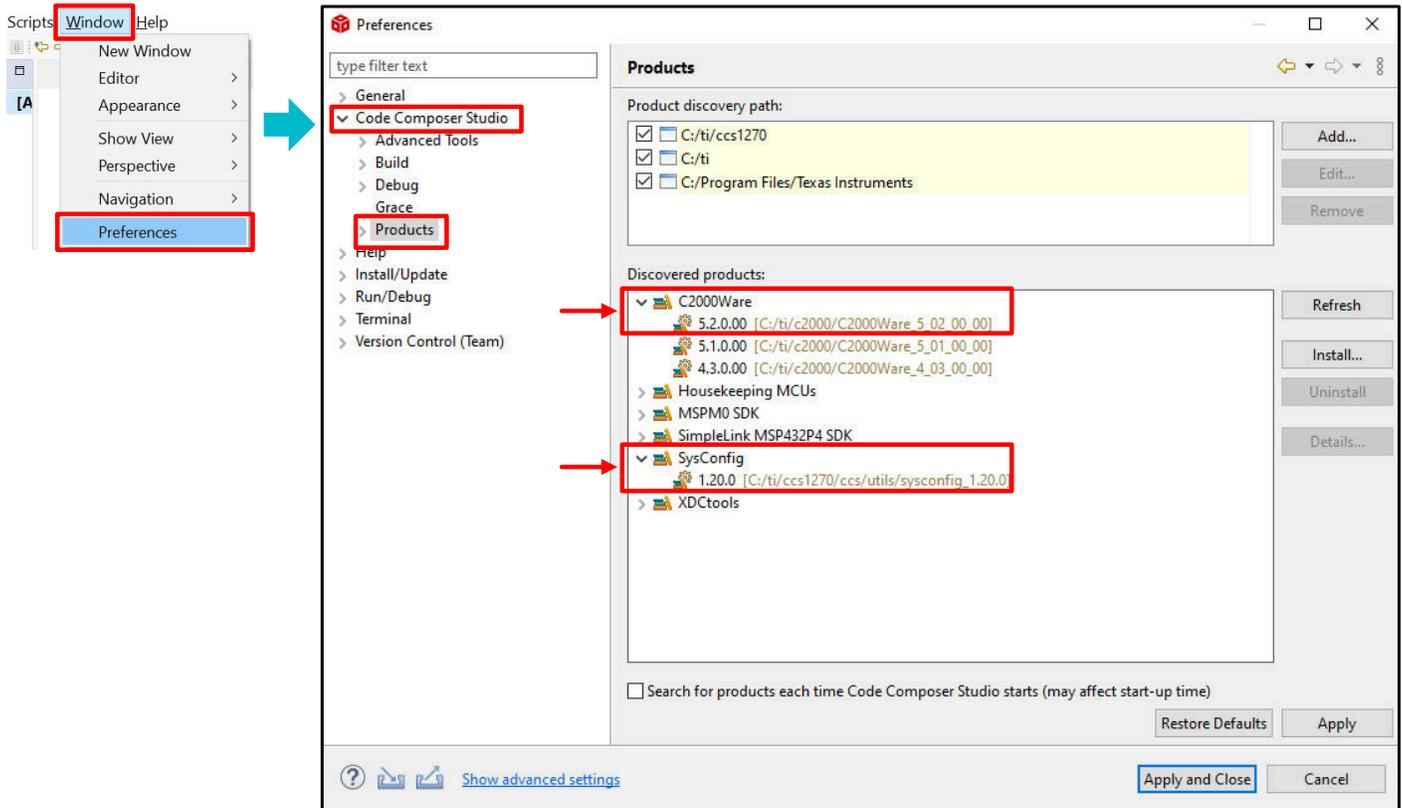

Figure 2-2. Verification of C2000Ware 5.02.0.00 Installation
- b. Make sure that there is "C2000Ware 5.2.0.00" and "SysConfig" (SysConfig is installed automatically when you install C2000Ware) under the "Discovered products", as is marked in Figure 2-2. If there is no "C2000Ware 5.2.0.00" or "SysConfig" appearing, click "Refresh" on the right side of the "Preference" window. If still unavailable, check whether the installation is correct. A standalone desktop version of SysConfig can be found at SYSCONFIG System configuration tool.